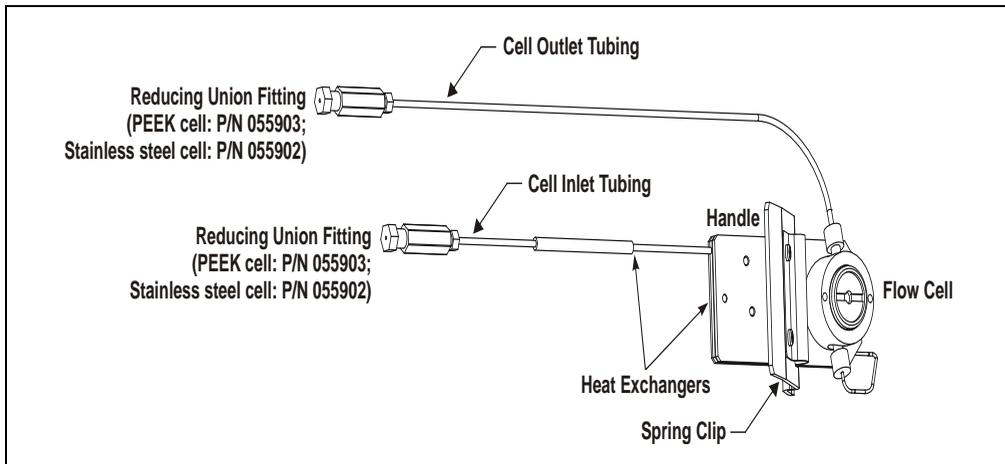
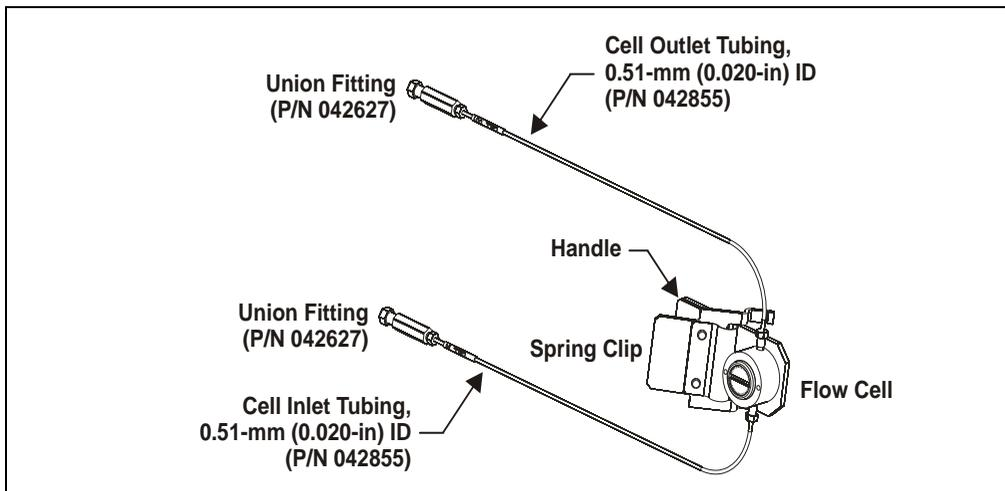

Figure B-1. Standard or Semi-Micro Flow Cell Connections
Figure B-2. Semi-Preparative Flow Cell Connections
7. **Standard or semi-micro cell:** Connect the cell inlet tubing to the reducing union fitting (P/N 055903 for a PEEK cell; P/N 055902 for a stainless steel cell) on the heat exchanger tubing (see Figure B-1).
8. **Semi-preparative cell:** Connect the cell inlet tubing to a union fitting (P/N 042627) (see Figure B-2).
9. Connect a length of 0.51-mm (0.020-in) ID tubing (P/N 052308) to the cell outlet connection (see Figure B-1 or Figure B-2). This is the cell waste line.